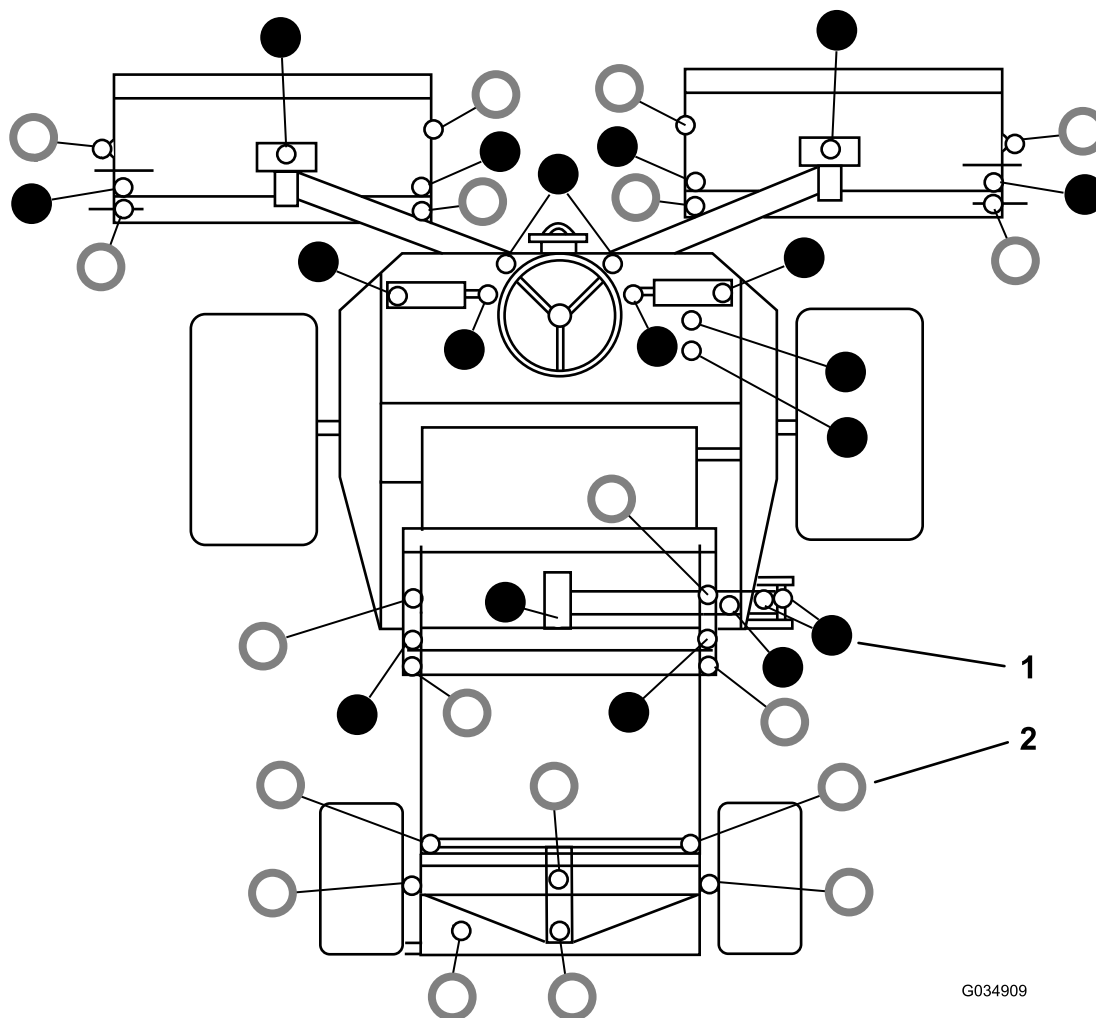

Figure 59
- Refer to Figure 59 for the grease fitting locations.